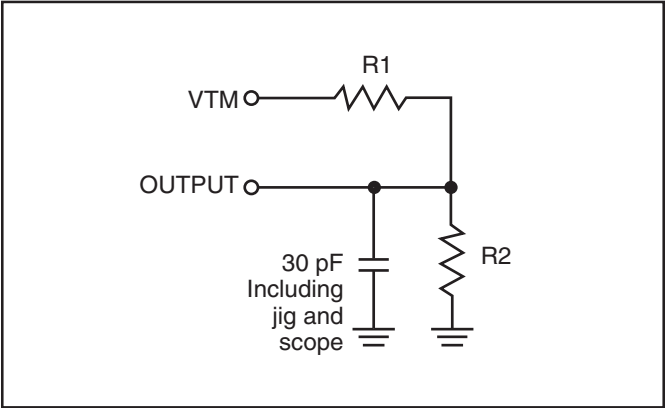

Figure 1
Output Load	See Figures 1 and 2
1. Test conditions assume signal transition times of 5 ns or less, timing reference levels of 1.5V, input pulse levels of 0.4V to $V_{DD}-0.3V$ and output loading specified in Figure 1.
1. Test conditions assume signal transition times of 5 ns or less, timing reference levels of 1.5V, input pulse levels of 0.4V to V_{DD} -0.3V and output loading specified in Figure 1.